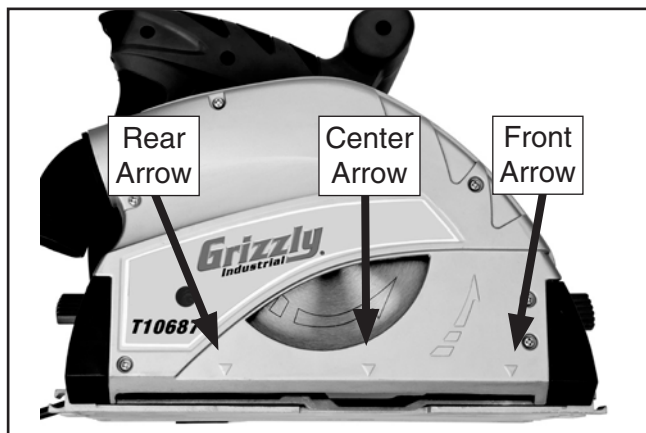

Figure 19. Cutting indicator arrows.
3. Align the start cut-point with the rear cutting indicator arrow (see **Figure 19**). This arrow marks the maximum rear cutting distance the blade will travel when fully extended.